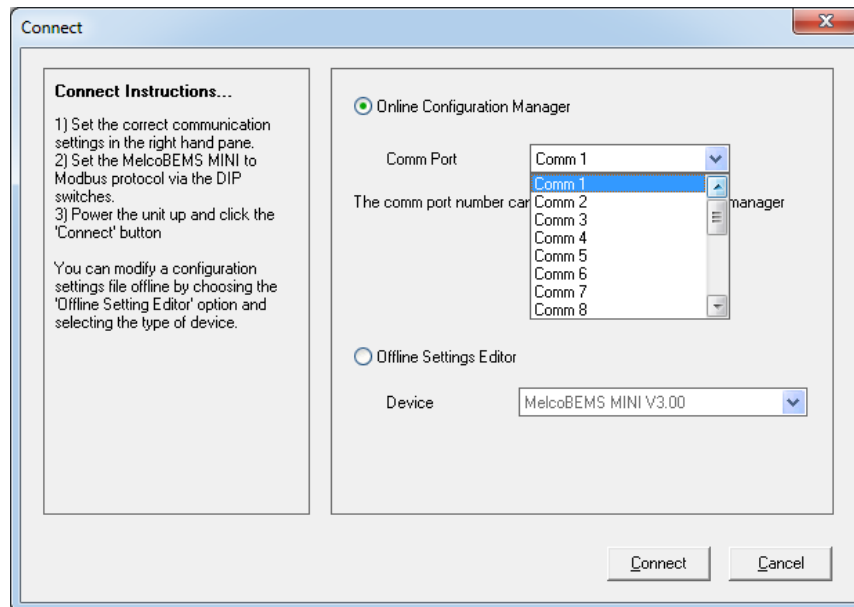

Figure 5
- a. Figure 5 is the window that will open.